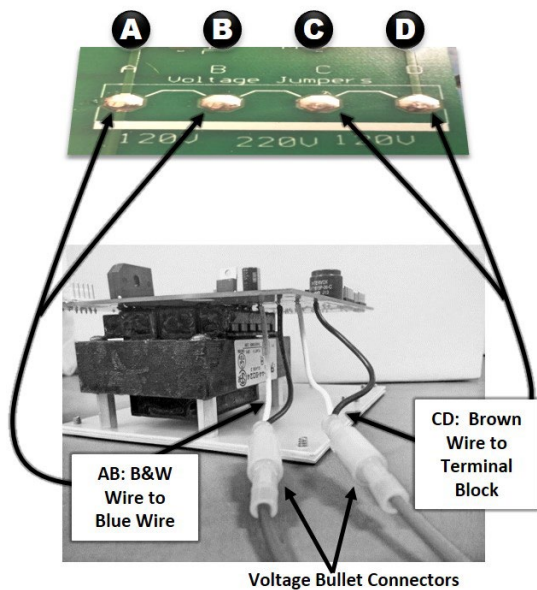
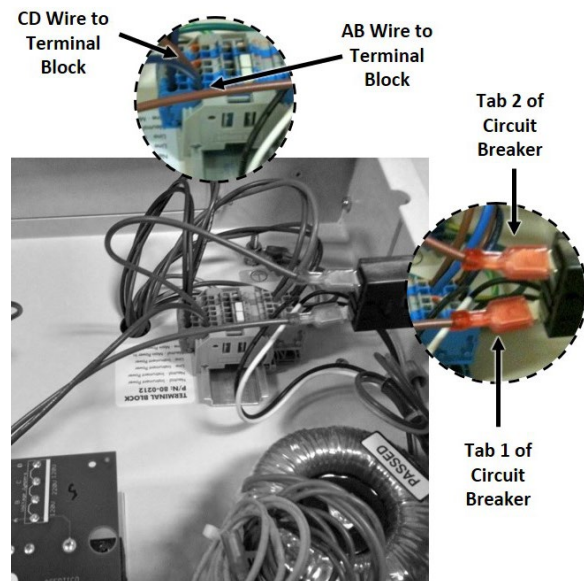

Fig. 12
Fig. 13
9. Connect and/or secure bullet connectors (Fig. 12, Fig. 13).